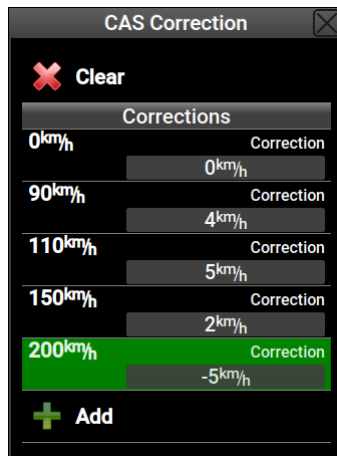

Figure 78: An example of the CAS correction table.
2. Enter points as shown in the Figure 78.